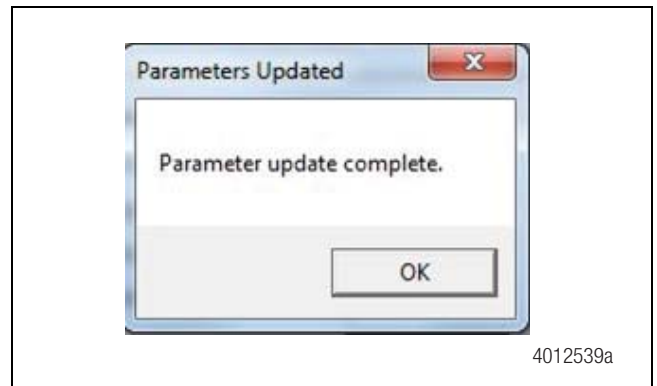

Figure 8
12. When the parameter update has completed successfully, the following notification will appear. Click OK. Figure 8.